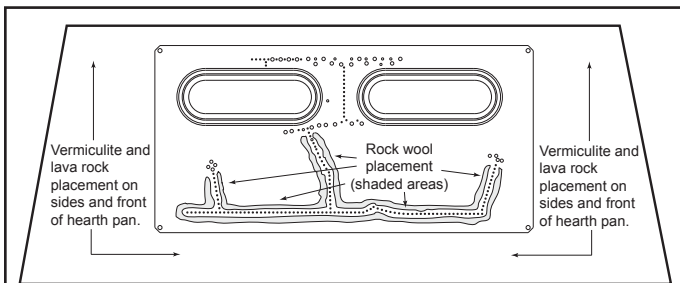

Figure 15.1 Placement of Rockwool, Lava Rock, Vermiculite
- See diagram, Figure 15.1.
- Sprinkle vermiculite over lava rock. See diagram, Figure 15.1.